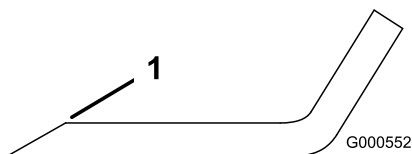
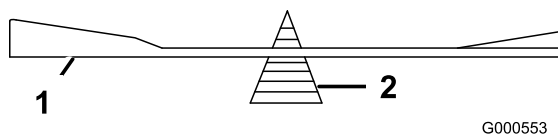

Figure 49
Figure 50
1. Use a file to sharpen the cutting edge at both ends of the blade (Figure 49). Maintain the original angle. The blade retains its balance if the same amount of material is removed from both cutting edges.
2. Check the balance of the blade by putting it on a blade balancer (Figure 50). If the blade stays in a horizontal position, the blade is balanced and can be used. If the blade is not balanced, file some metal off the end of the sail area only (Figure 49). Repeat this procedure until the blade is balanced.